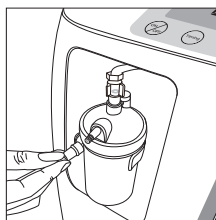

Figure 5
C. Connect your cannula to the humidifier bottle as shown in Figure 5.